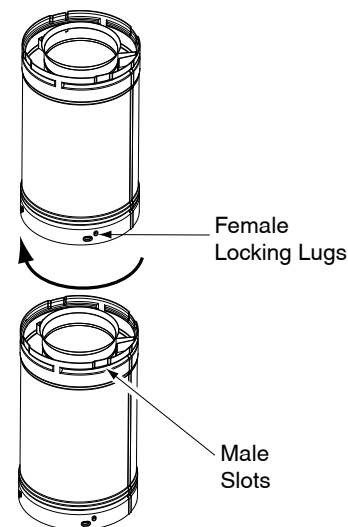

Figure 11 - Vent Pipe Connection
Twist-Lock Procedure: The female ends of the pipes have locking lugs (indentations). These lugs will slide straight into matching slots on the male ends of adjacent pipes. Push pipe sections together and twist one section clockwise approximately one-quarter turn until the sections are fully locked (see **Figure 11**). **Note:** Horizontal runs of vent must be supported every three feet. Use wall strap for this purpose.
2. Assemble the desired lengths of pipe and elbows necessary to reach from the fireplace flue up through the firestop. Be sure all pipe and elbow connections are fully twist-locked (see **Figure 11**, page 9).